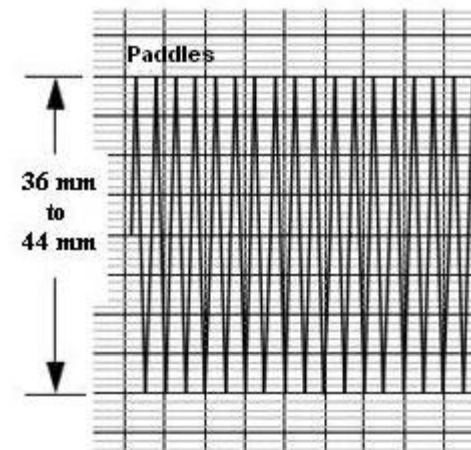

Figure 1.17: ECG Gain at Paddles Lead
4. Print 10 seconds of paddles ECG and confirm the printed signal amplitude is 36 mm to 44 mm, peak-to-peak as shown in Figure 1.17.